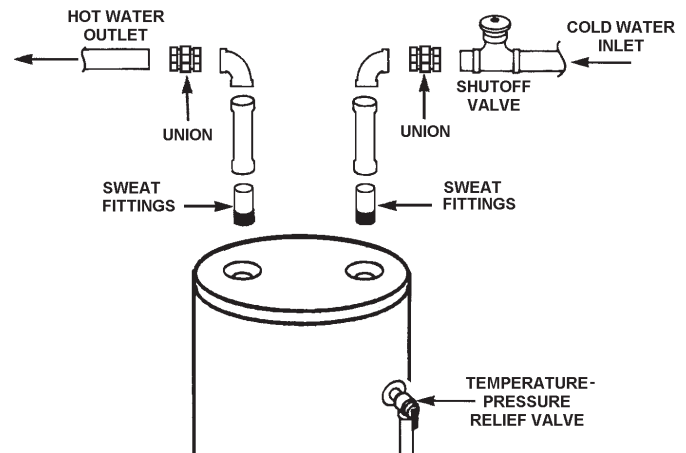

Figure 11
**NOTE:** To protect against untimely corrosion of hot and cold water fittings, it is strongly recommended that di-electric unions or couplings be installed on this water heater when connected to copper pipe, see Figure 11 also.
Figure 11 show the typical attachment of the water piping to the water heater. The water heater is equipped with 3/4 inch NPT water connections for 50 gallon unit and 1 inch NPT water connections for 75 gallon unit..